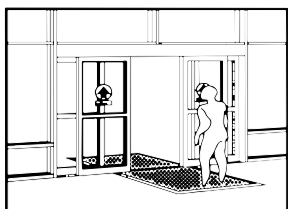

Figure 3
1. Step on the "opening" (activating) mat in several places. Door should slide open smoothly and stop without impact. (See Figure 3)